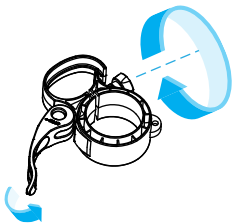

Figure 14
3. Turn the **Knob** to tighten the **Cable Management Clip** and **Push** the **Lever** to be **Fully Closed** to affix it onto the **Pole**. (Figure 14)